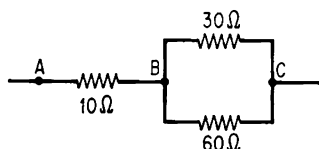

Fig. 75
21. What is the total resistance between B and C in Fig. 75? What is the total resistance between A and C?